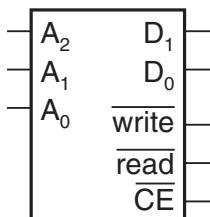

Fig. 6.1
- 6 Fig. 6.1 shows an 8×2 bit memory module.